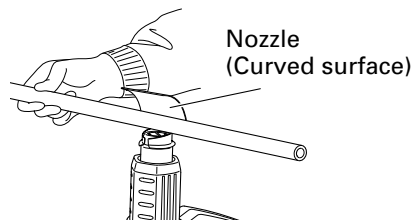

Fig. 9
4. Forming resin pipes (Fig. 9)